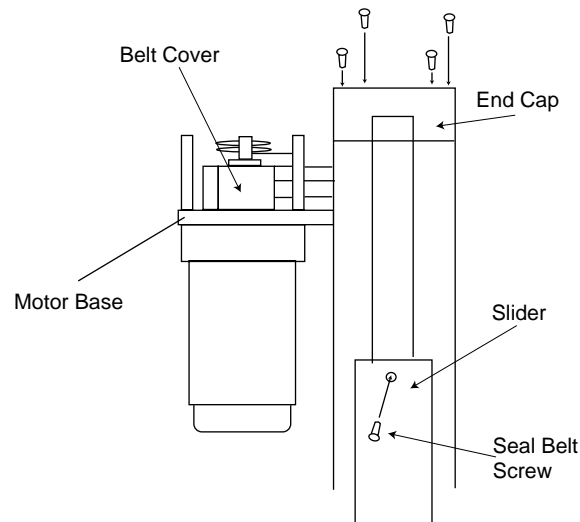

Figure B-3. Seal Belt and End Cap Removal
3. Remove the seal belt screw. Remove the four screws on the end cap and remove end cap (see Figure B-3).